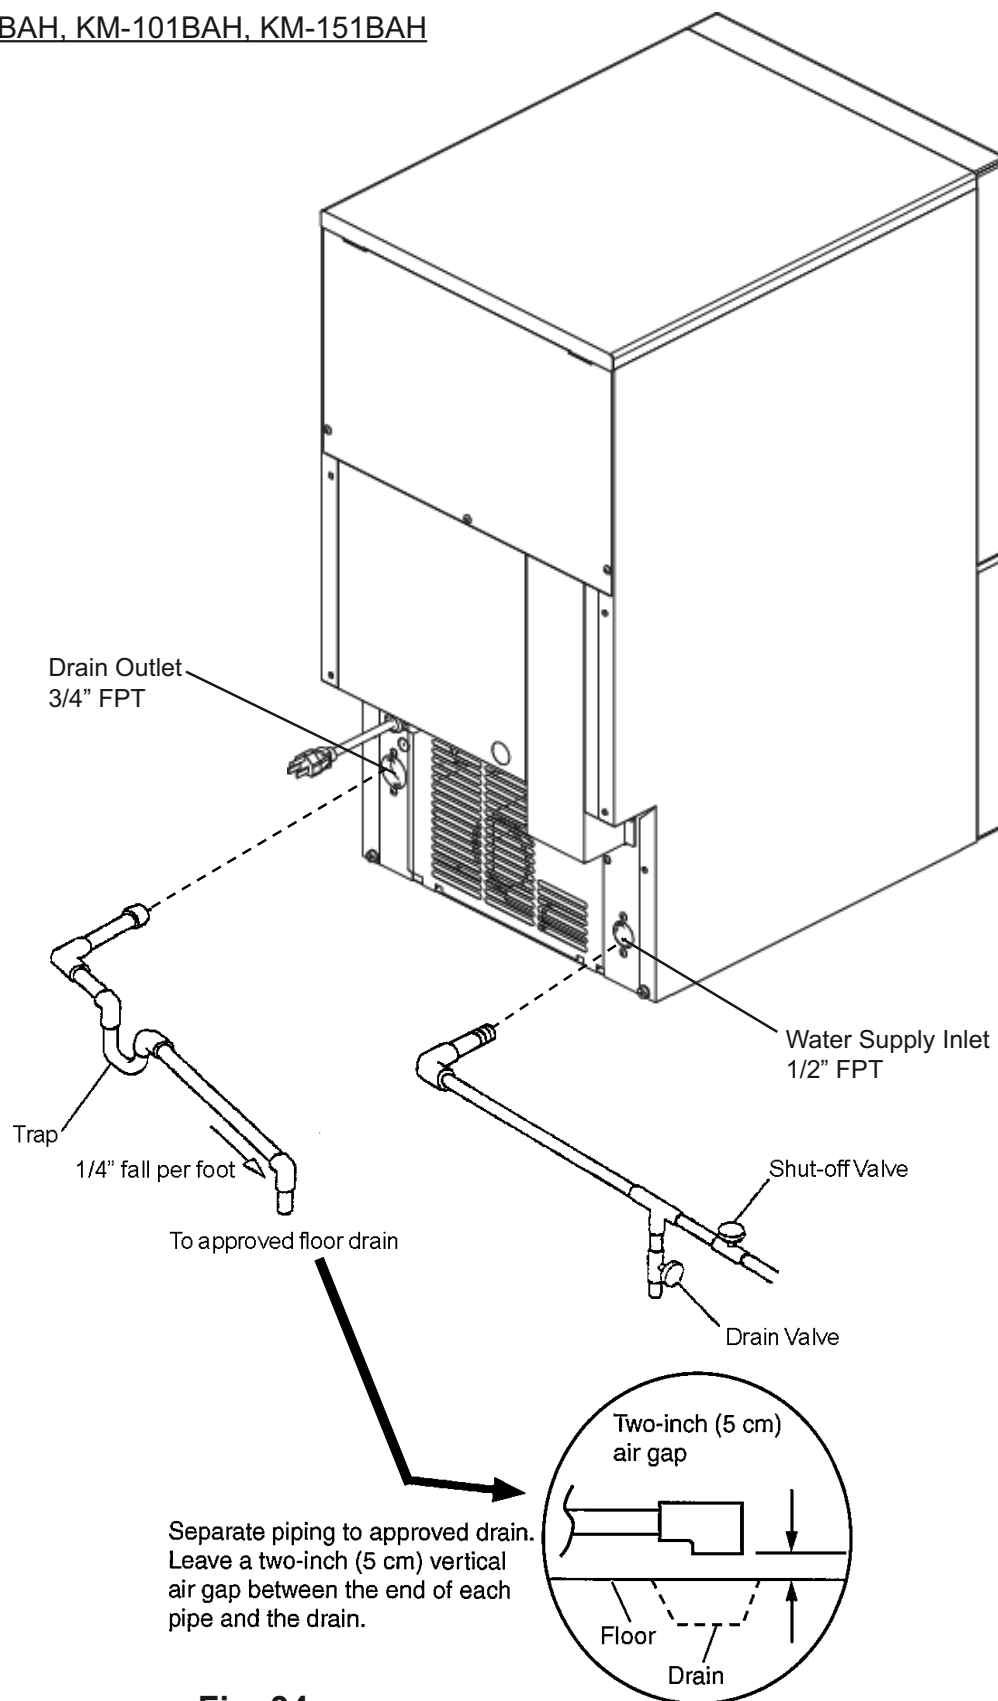

Fig. 34
- 4) Close the potable water supply line Shut-off Valve and open the potable water supply line Drain Valve. See Fig. 34.